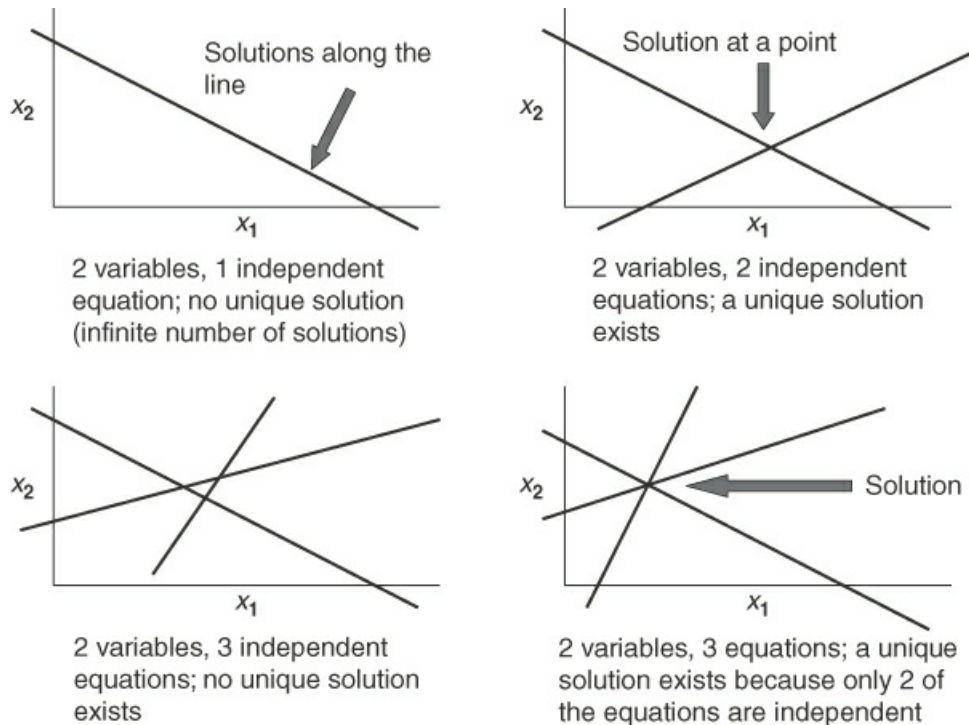

Figure 3.12 Further illustrations of independent and nonindependent equations
1. What does the term *independent equation* mean? You know that if you add two independent equations together to get a third equation, the set of three equations is said to be *not independent*; they are said to be *dependent*. Only two of the equations are said to be independent because you can add or subtract any two of them to get the third equation. Figures 3.12 and 3.13 illustrate some examples of independent and dependent equations. **The rank of the coefficient matrix of a system of linear equations indicates the number of independent equations.** Sections 3.6 and 3.7 demonstrate how to use MATLAB or Python to determine the rank of a set of linear equations.